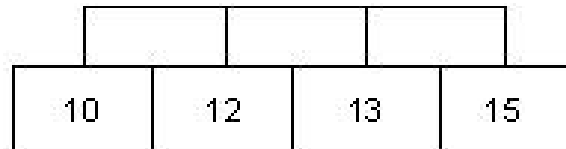

Figure 7 – Configuration 7
1.20 Perform a continuity check at the PAM side (top) of the terminal rail, to verify the following configuration (Figure 7):